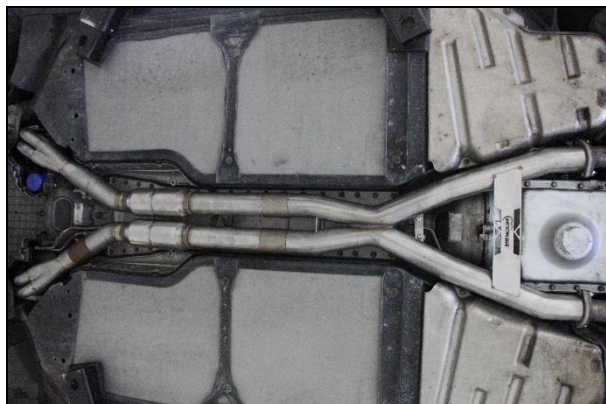

Figure 3
8. Slide the coupler from the catalyst or catalyst delete pipe on to the X-pipe inlet and align with a 50-50 split between the catalyst or catalyst delete pipe and the x-pipe inlet pipe. Tighten the couplers to allow for adjustment (**Figure 3**).